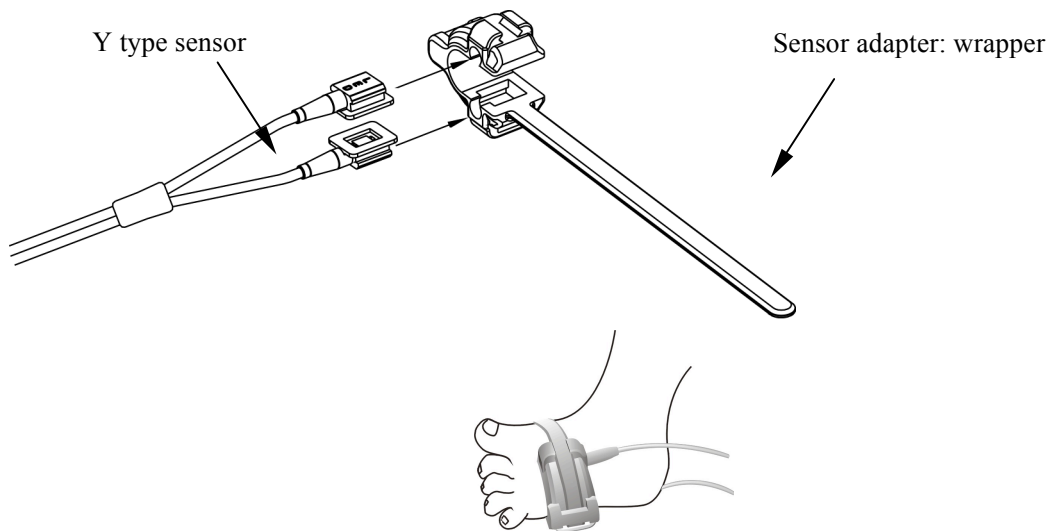

Figure 3.7 Neonate SpO₂ sensor placement
3. If the neonate SpO₂ sensor is used, please follow Figure 3.7 to connect.